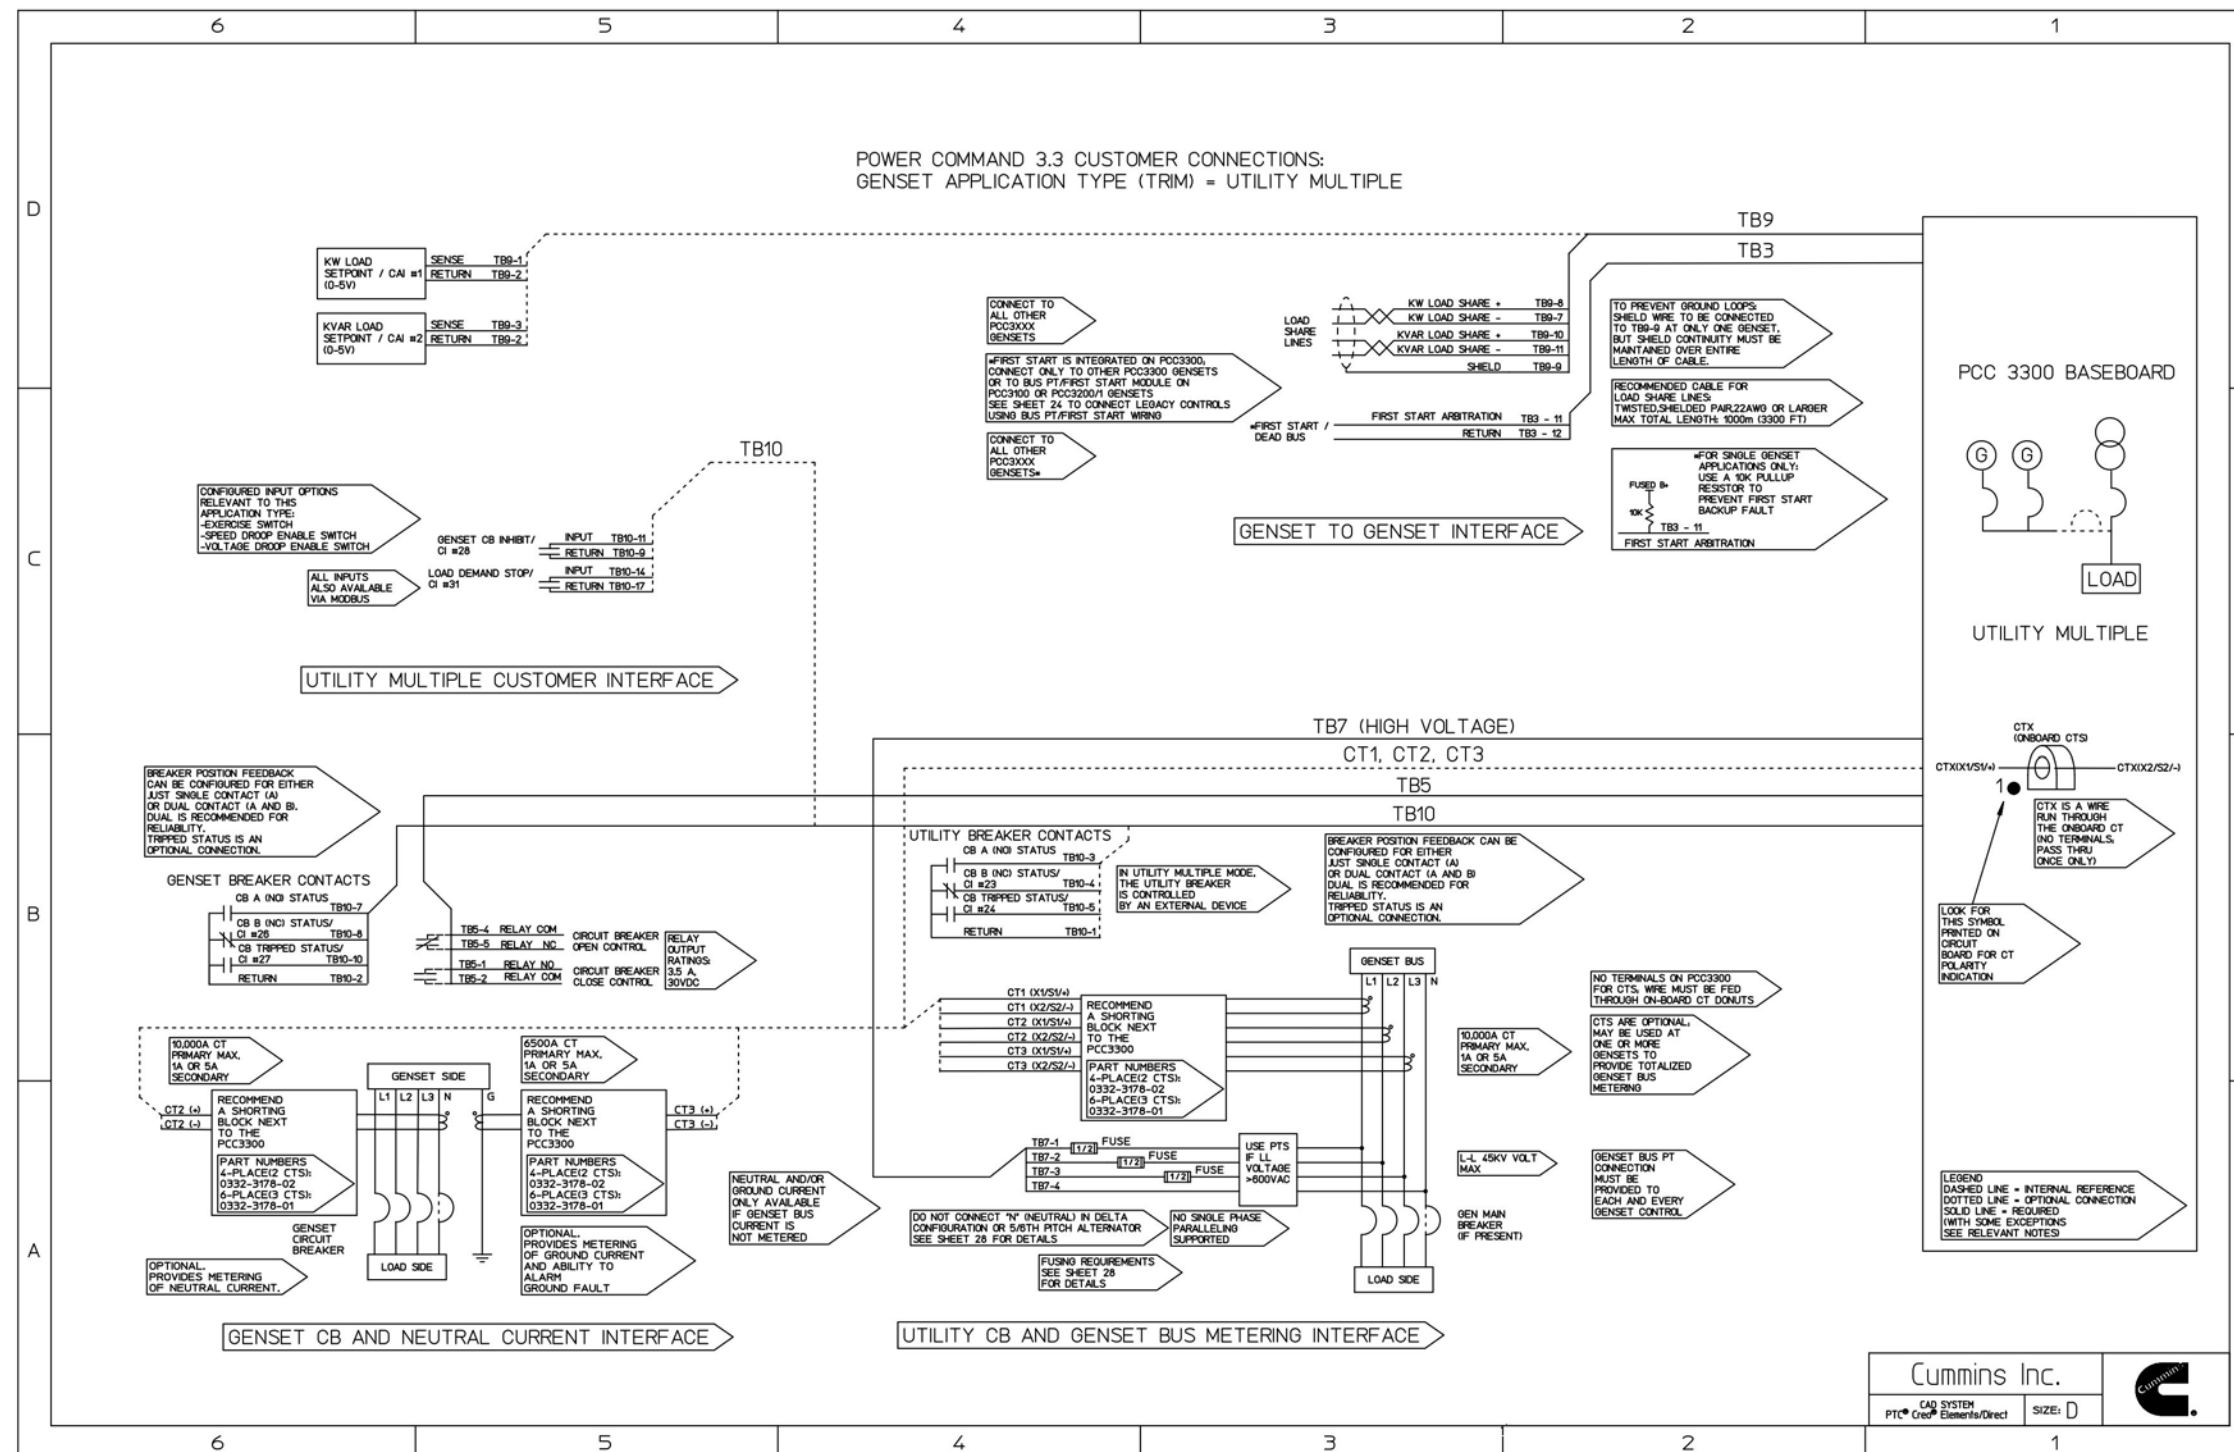

FIGURE 58. POWERCOMMAND 3.3 PARALLELING CONNECTIONS - UTILITY MULTIPLE
- Figure 58. PowerCommand 3.3 Paralleling Connections - Utility Multiple 121